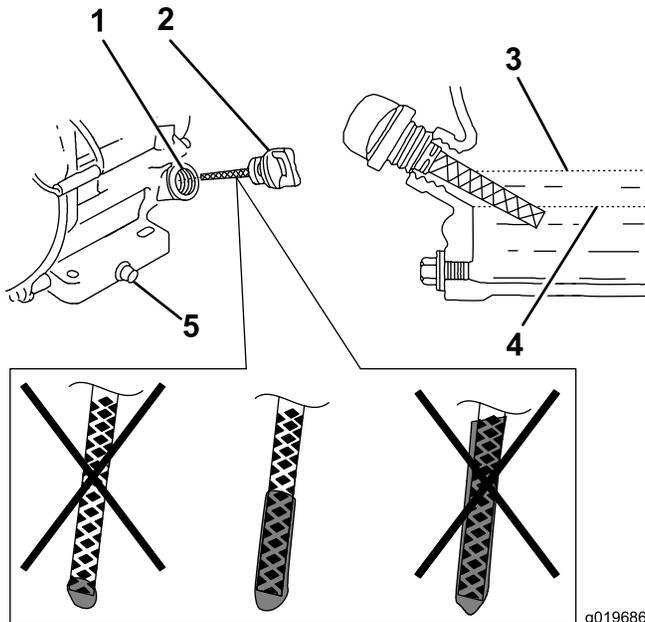

Figure 26
6. Remove the dipstick and check the engine-oil level (Figure 26).